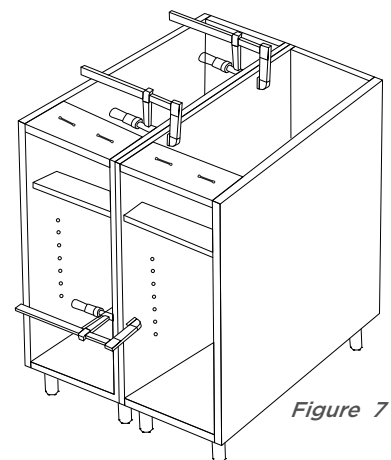

Figure 7
- Secure the cabinets into position using clamps (Figure 7). Use as many clamps as necessary, placing them at the top and along the sides to maintain proper alignment and stability. Ensure end panels are clamped tightly together at all attachment points prior to fastening.